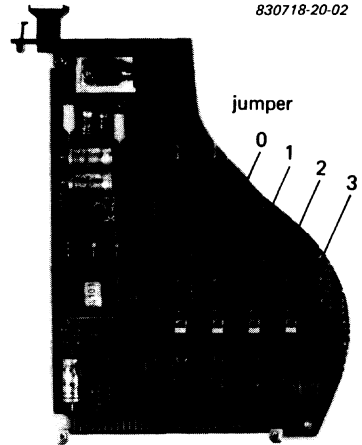

Fig. 3 Location of jumpers for adjustment of output current range.
For the 4 channels the output current range can be selected by positioning the jumpers 0, 1, 2 and 3 (Fig. 3) as shown below.
* Module in position as shown in Fig. 3.